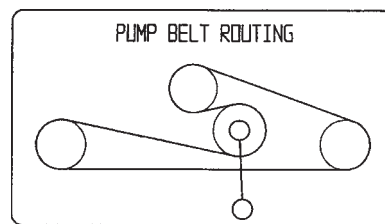

Figure 73
1. Pull the spring loaded idler down and remove the traction belt from the engine and hydro pump pulleys (Fig. 73). Remove the belt between the pulleys.
2. Install the new belt around the engine and hydro pump pulleys (Fig. 73).
3. Pull the spring loaded idler down and align it below the traction belt. Release the pressure on the spring loaded idler (Fig. 73).